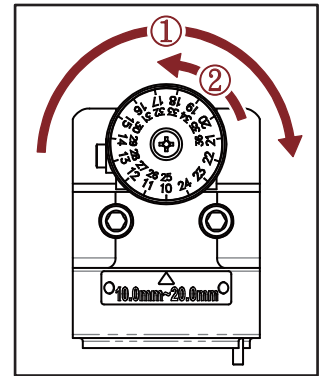
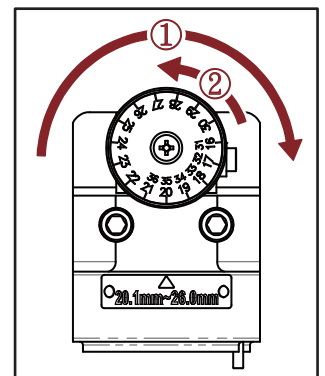

Fig. 6-1
Fig. 6-2
- Right Positioning Shelf:  $\Phi 10.0$  mm -  $\Phi 20.0$  mm (Fig. 6-1)
- ① Turn it by clockwise to the end.
- ② Turn it by counterclockwise at "10".
- Left Positioning Shelf:  $\Phi 20.1$  mm -  $\Phi 26.0$  mm (Fig. 6-2)
- ② Turn it by counterclockwise at "20".